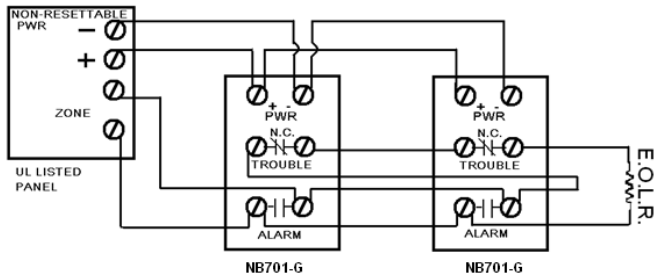
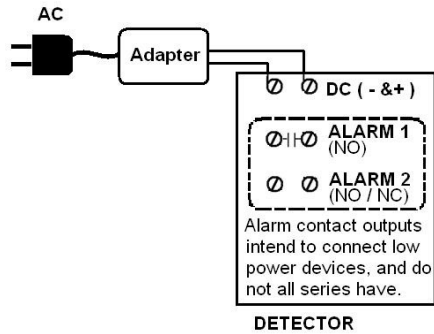
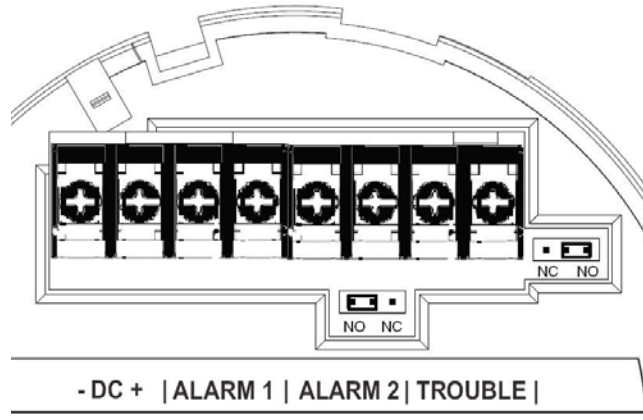

Fig. 2 – Gas Detector and control panel wiring connections for panel powered
Fig. 4 – Residential Gas Detector wiring connections
Fig. 5 – Terminals and Jumpers
5. Connect the wiring to the terminals to complete the circuit wiring as shown in Fig. 2 to Fig. 4. Terminal designation are marked on the back label of the detector as Fig.5.
- Set jumpers as NO or NC as shown in Fig. 5 to be compatible with the requirements of the device connected. NO - If the jumper is set on this position, the contact output is open while detector is not powered. NC - If the jumper is set on this position, the contact output is closed while detector is not powered.
NOTE: There are two separated outputs for Alarm contact - Alarm1 & Alarm2. Alarm1 is N/O contact, and Alarm2 can be adjusted to N/O or N/C by the jumper near the Alarm2 terminal. And there is a separate jumper inside the conventional detector for the Trouble contact (near the Trouble terminal in Fig.5).